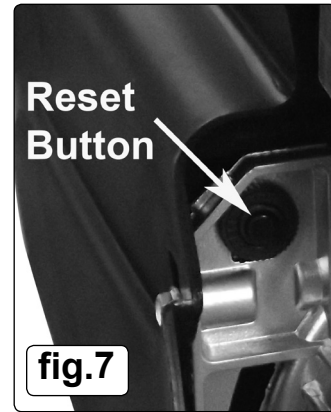

fig.7
- 5.15.1 **THERMAL CUT OUT:** If the unit overheats the thermal cut out will operate and shut the unit down. Allow the unit to cool down then press the reset button, located just inside the pump cover (fig.7).